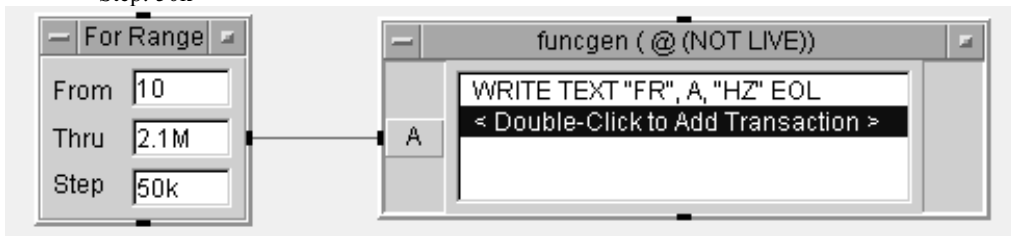

Figure 4.8. An Expression List I/O Command Transaction
12. Edit the fields in the For Range object as follows. See Figure 4.8.